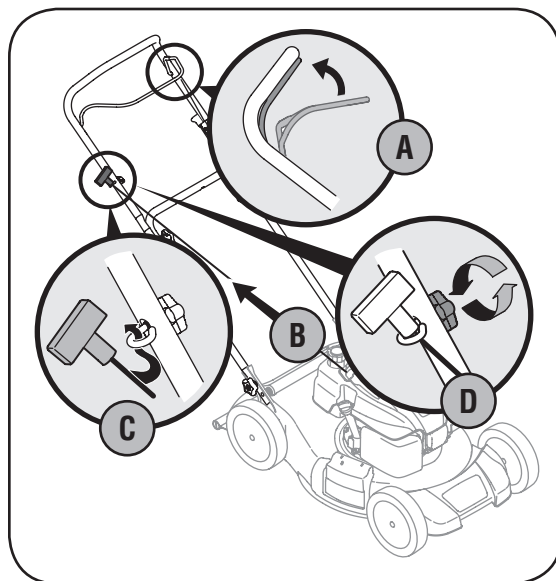

Figure 3-3
3. Rope guide Setup as follows, see Figure 3-3: